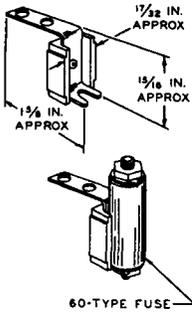
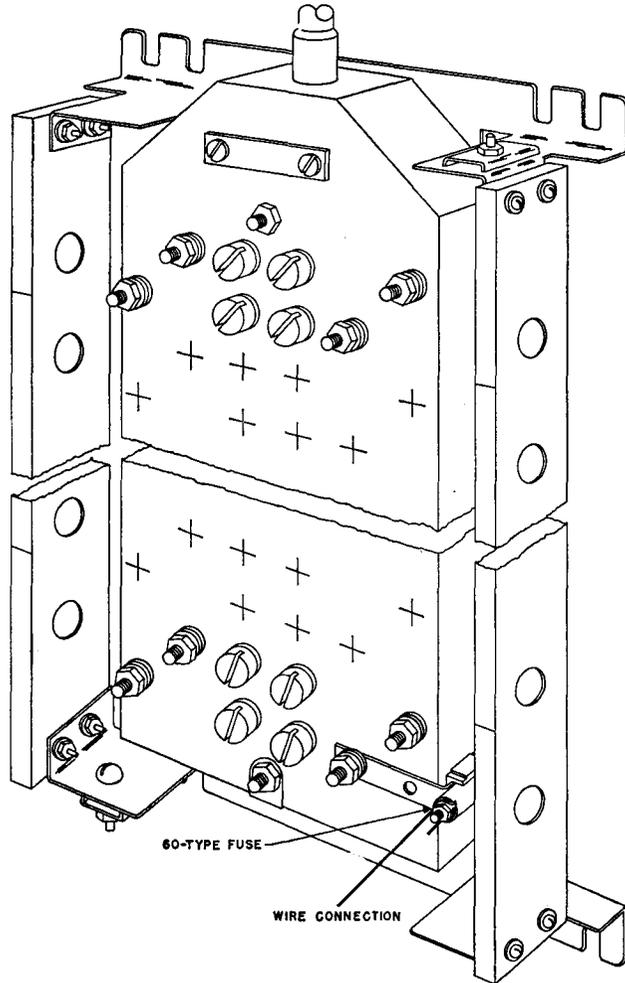

Fig. 17 - The 14A Fuse Holder
Fig. 18 - Mounting and Wiring 14A Fuse Holder
**10.02** Fuse holder is a fiber detail riveted to a Z-shaped metal bracket, see Fig. 17. Two holes are located in one leg for attachment to either binding post of a cable pair. Wire is connected under fuse nut as shown in Fig. 18.